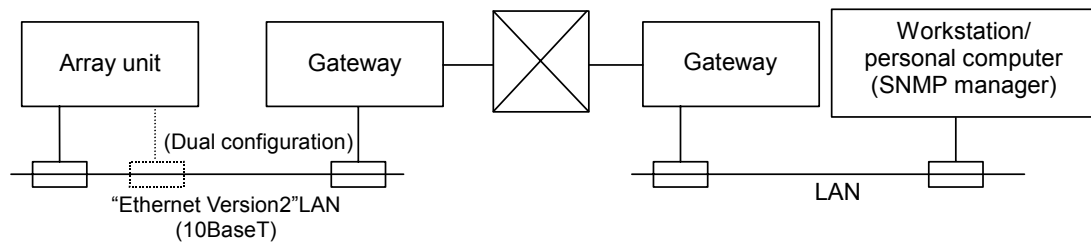

Figure 1.3 Public LAN Connection
- Public LAN connection (Figure 1.3). One Gateway address (default Gateway address) can be set for each controller.